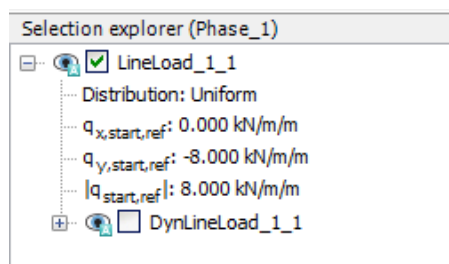

Figure 15-4: Specification of the static load component in the Selection explorer
- 3 Activate the static component of the distributed load. In the **Selection explorer** set $q_{y,start,ref}$ value to -8 kN/m/m. Do not activate the dynamic component of the load as shown in Figure 15-4 \(p. 236\).